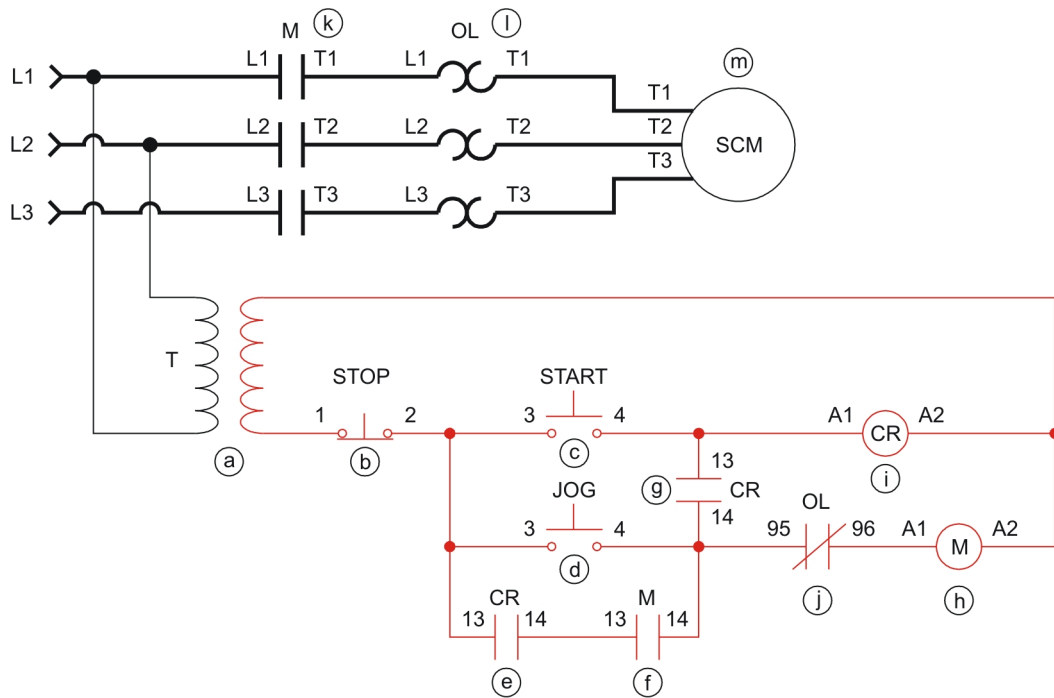

Figure 2-8. Schematic diagram.
□ 3. In the Figure 2-8 schematic diagram, identify each circled letter with the appropriate device name (see NEMA symbols table in Appendix B).